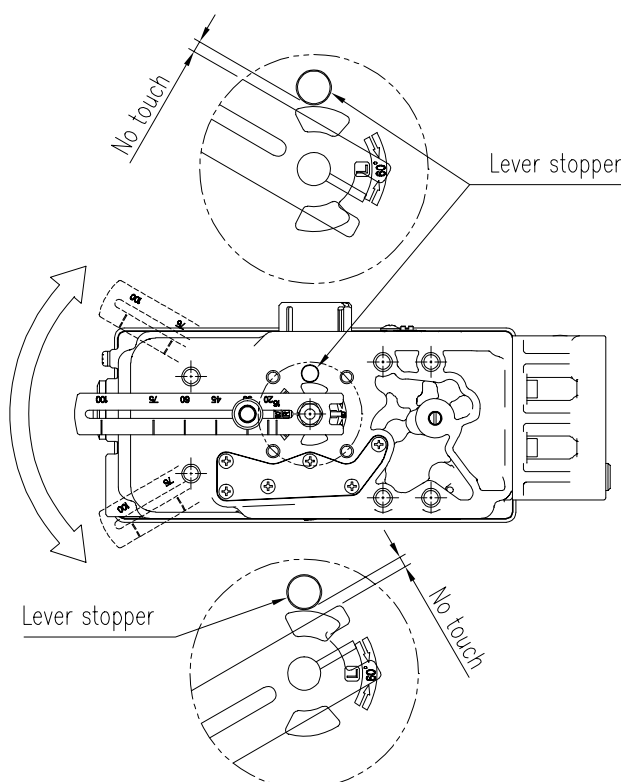

Fig. 3-8: Feedback lever should not touch lever stopper on 0 % ~ 100 % valve stroke.
- 8) After installing the positioner, operate the valve from 0 % to 100 % stroke by using direct air to the actuator. On both 0 % and 100 %, the feedback lever should not touch the lever stopper, which is located on the backside of the positioner. If the feedback lever touches the stopper, the adapter holder should be moved or the adapter of feedback lever should be moved further away from the main shaft of the positioner. Refer to Fig 3-8.